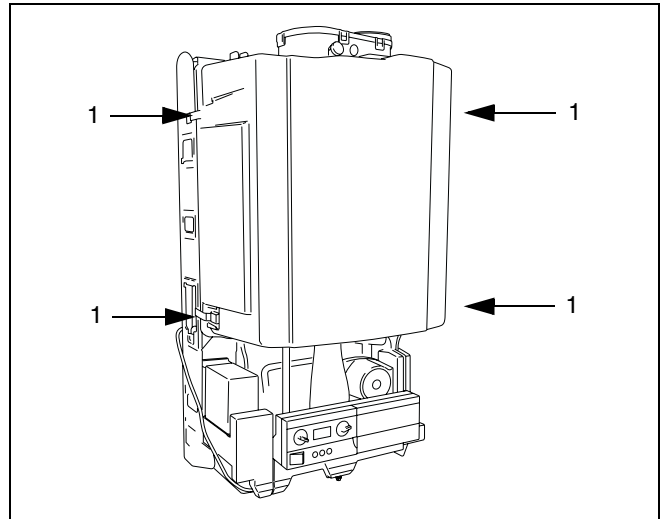

fig. 51 Remove the ventilation cover
- Open the latches (→ fig. 51, item 1) and remove the ventilation cover.